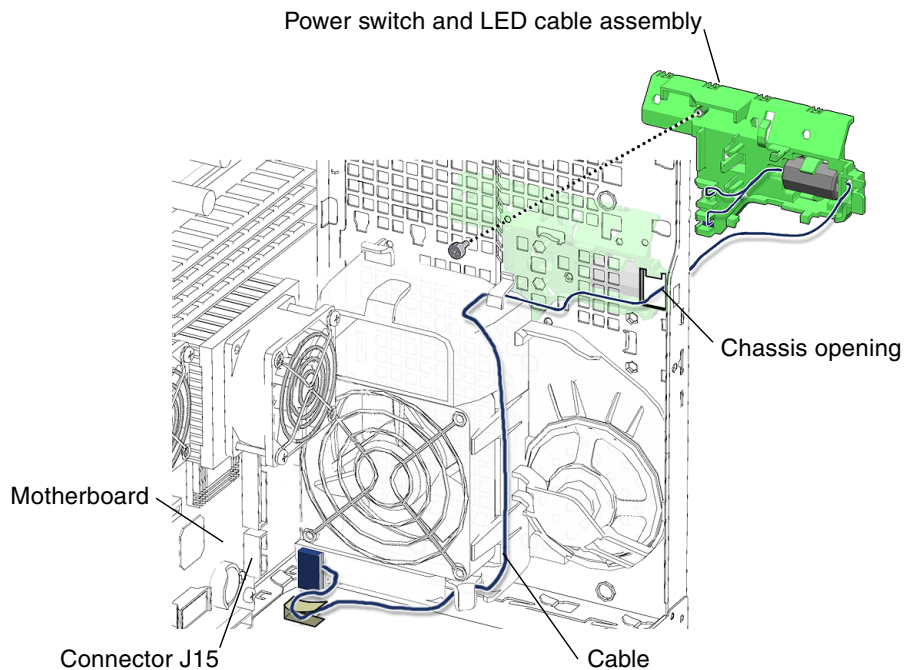

FIGURE 14-22 Routing the Power Switch and LED Cable Through the Front of the Chassis
4. Route the power switch and LED cable through the front chassis opening (FIGURE 14-22).